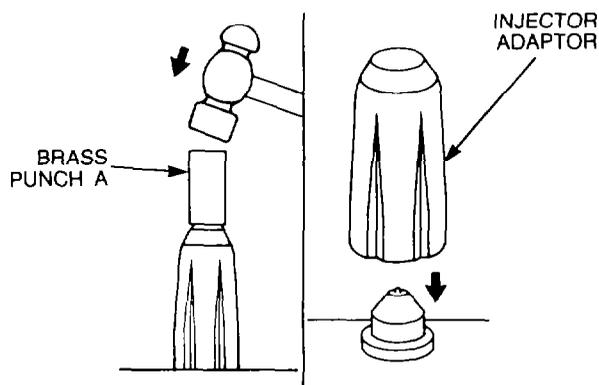

Figure 78 — Injector Cup — Removal
- k. Place the injector cup retainer on a flat bench top, then using the manufactured brass punch A and a hammer, remove the injector cup from the cup retainer (see Fig. 78).